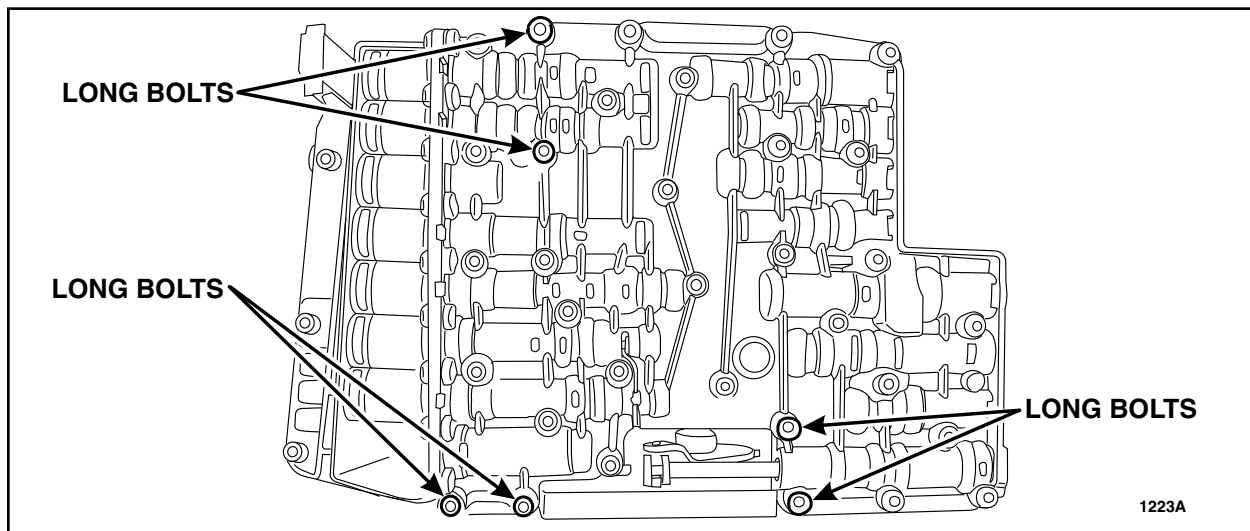

FIGURE 1
3. Remove the six long bolts from the molded leadframe. See Figure 1.